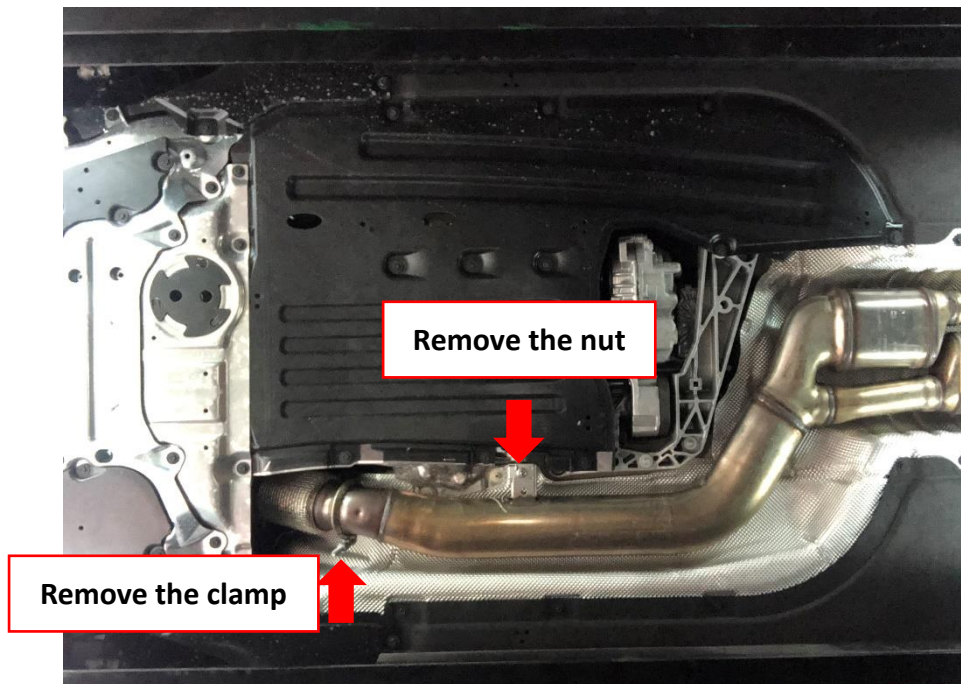

Figure 1
1. Remove the front pipe clamp and front pipe bushes screws.(Figure 1)